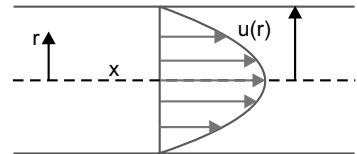

Fig. 11
- Q. 44. The velocity profile of a fully developed laminar flow in a straight circular pipe, as shown in Fig. 11, is given by the expression
The velocity profile of a fully developed laminar flow in a straight circular pipe, as shown in Fig. 11, is given by the expression: